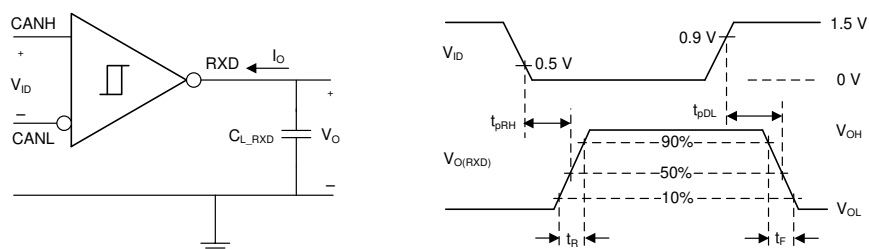
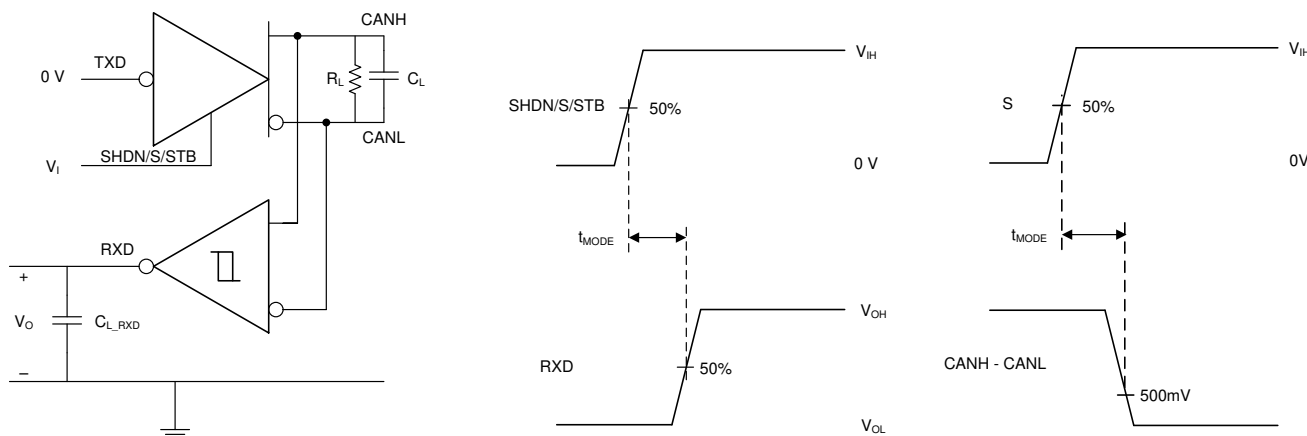

图 6-3. Receiver Test Circuit and Measurement
图 6-4. t_{MODE} Test Circuit and Measurement, from Normal to Shutdown, Standby or Silent Mode
The CAN bus has two logical states during operation: recessive and dominant. See 图 6-3 and 图 6-4.
Transceivers with low power Standby Mode have a third bus state where the bus terminals are weakly biased to ground via the high resistance internal resistors of the receiver. See 图 6-3 and 图 6-4.
(1) Mirrors bus state: low if CAN bus is dominant, high if CAN bus is recessive.
(2) See 图 6-3 for bus state.